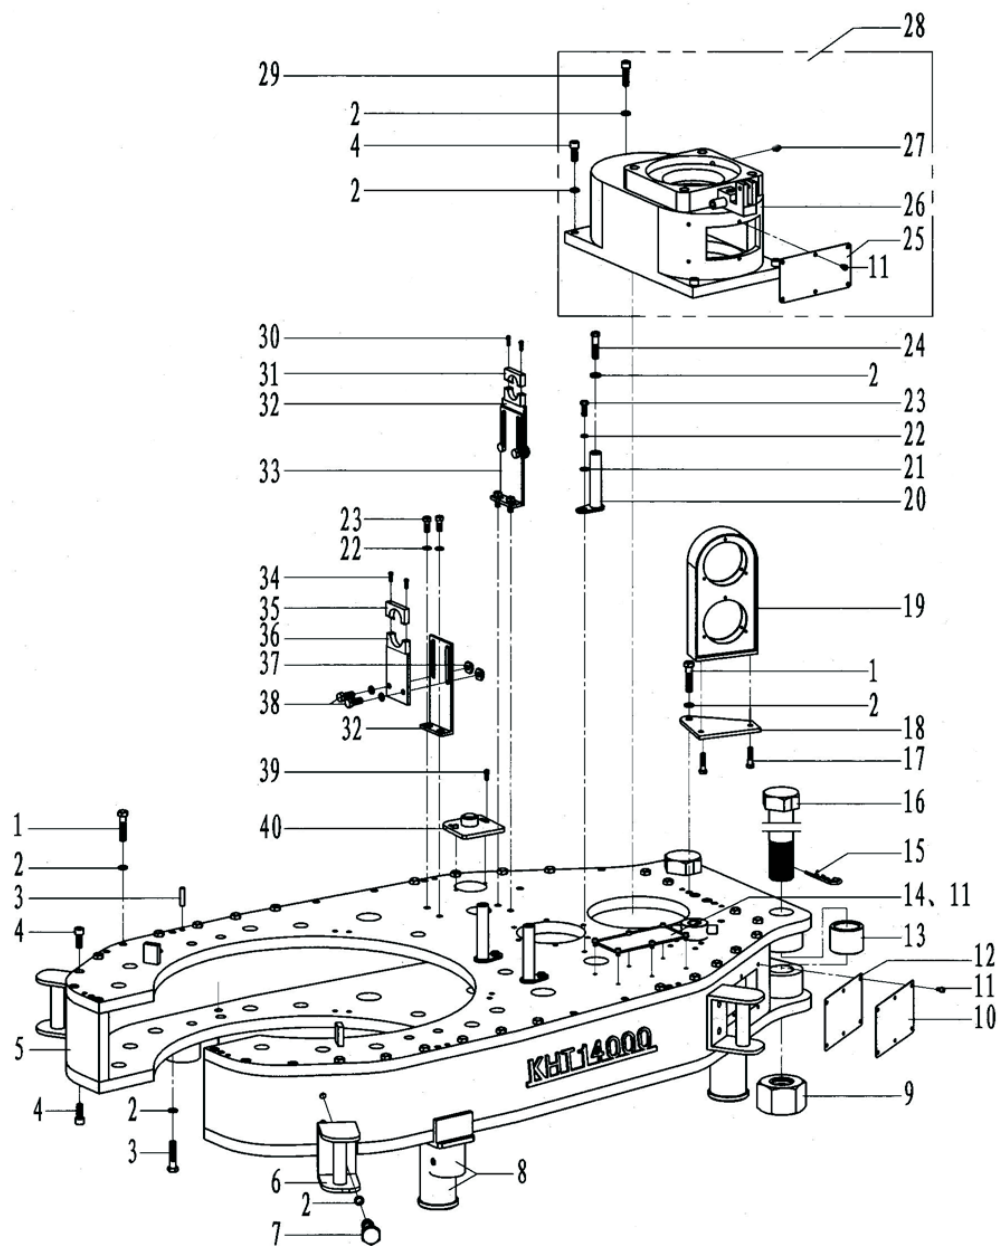

Fig.4
7.4 Shell and accessories (Fig 4, Table 4)